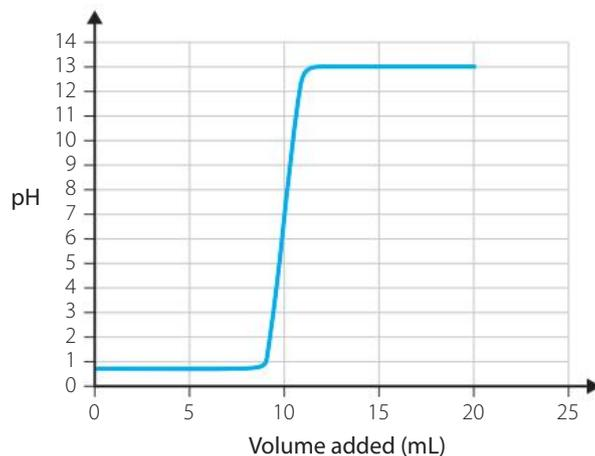

FIGURE 7.16 An acid–base titration
- 10 A student conducted a titration using 0.060 mol L^{-1} solutions of both the acid and the base. The results were collected using a pH probe, then graphed. The data is shown on Figure 7.16.